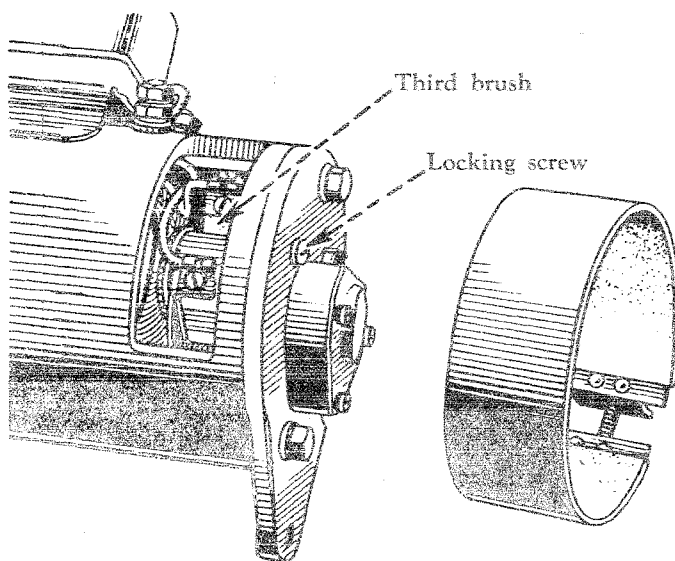

Figure 89A. Generator Cover Band Removed. Showing Brushes
a. Adjusting the Generator (See Figures 89A and 89B)
(1) The generator output (charging rate) may have to be adjusted to meet various conditions, in order to maintain a fully charged battery. To obtain the best performance and life of the battery, do not undercharge or overcharge. Unless you are familiar with this equipment and know how to adjust generators, it is advisable to have the charging rate adjusted, when necessary, by the nearest Austin-Western distributor.
(2) The maximum output should be 3 to 6 amp. with the generator hot, and 8 to 10 amp. when cold. **DO NOT SET THE CHARGING RATE BEYOND THESE LIMITS.** To determine the actual maximum charging rate of the generator at any time, check at the ammeter. To do this, a fully charged battery should be used. With the engine operating and with no electrical load, remove the voltage regulator cover and slip a match between the armature and the core of the regulator, in order to hold the contact points closed, thus grounding the generator field and maintaining the maximum charging rate. The ammeter needle should show 3 to 6 amp. with the generator hot, or 8 to 10 amp. with the generator cold.
(3) To adjust the charging rate by the third brush: